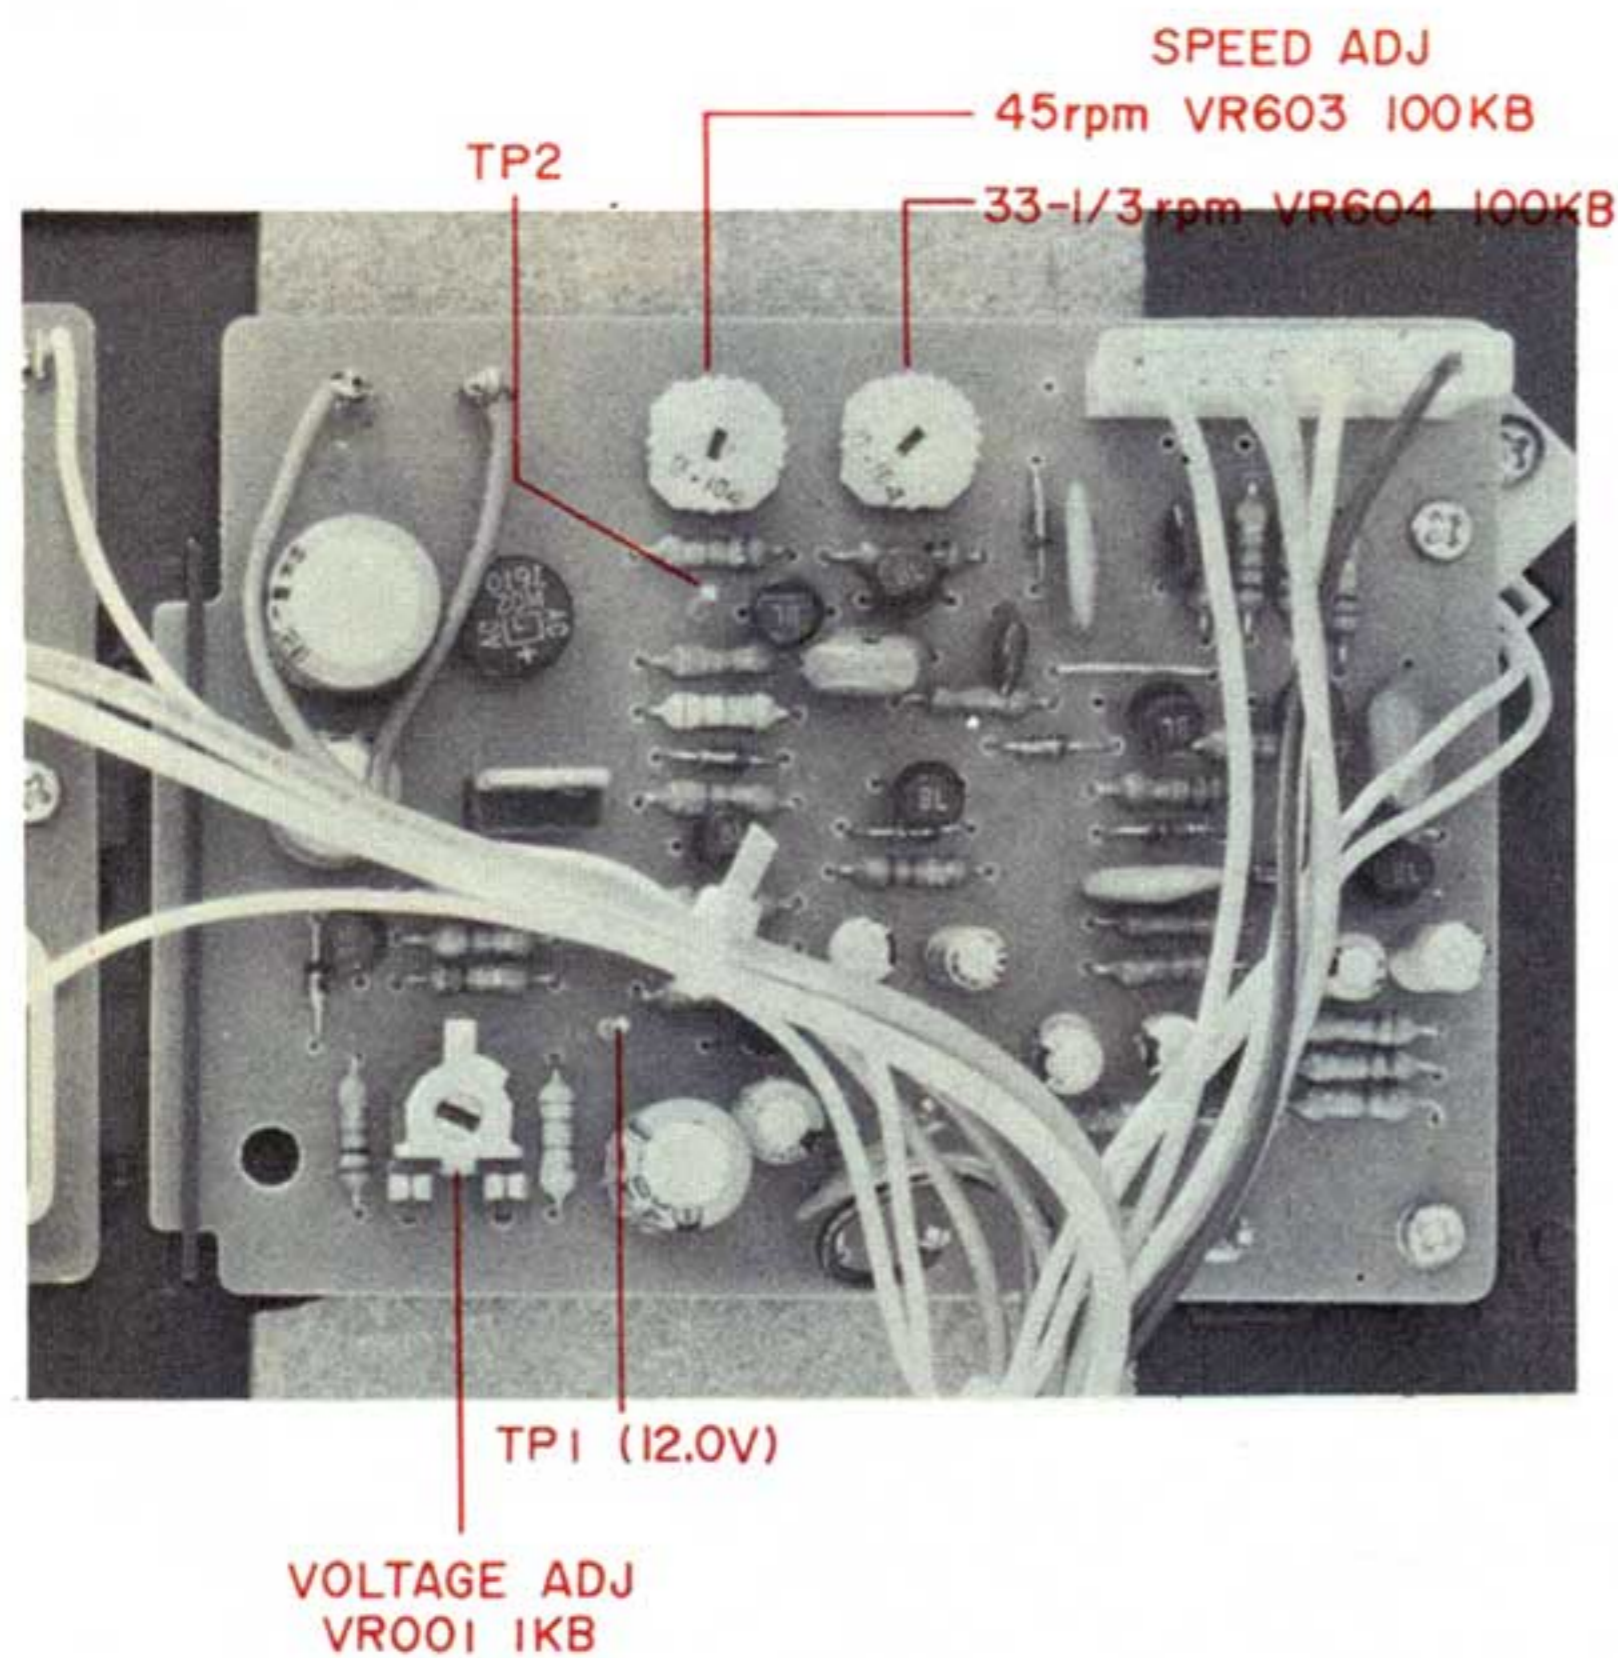

Fig. 3 Control P.C Board
ADJUSTMENT (Refer to Fig. 3)
(Refer to Figs. 3 and 4)
- 2) Observe Row 1 revolutions of Strobe markings. Adjust VR604 100 kB (Fig. 3) until Row 1 Strobe markings appear to come to a stand-still.
- 4) Observe Row 2 revolutions of Strobe markings. Adjust VR603 100 kB (Fig. 3) until Row 2 Strobe markings appear to come to a stand-still.
- 2) Observe Row 3 revolutions of Strobe markings. Adjust VR604 100 kB (Fig. 3) until Row 3 Strobe markings appear to come to a stand-still.
- 4) Observe Row 4 revolutions of Strobe markings. Adjust VR603 100 kB (Fig. 3) until Row 4 Strobe markings appear to come to a stand-still.